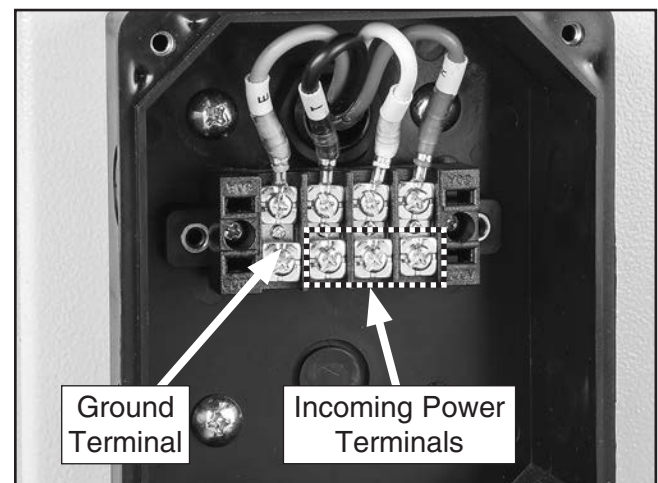

Figure 60. Terminal locations to connect incoming power wires and ground wire.
3. Connect ground wire to ground wire terminal, then connect incoming power wires to terminals shown in **Figure 60**. Refer to **Pages 82–83** for detailed wiring diagrams.